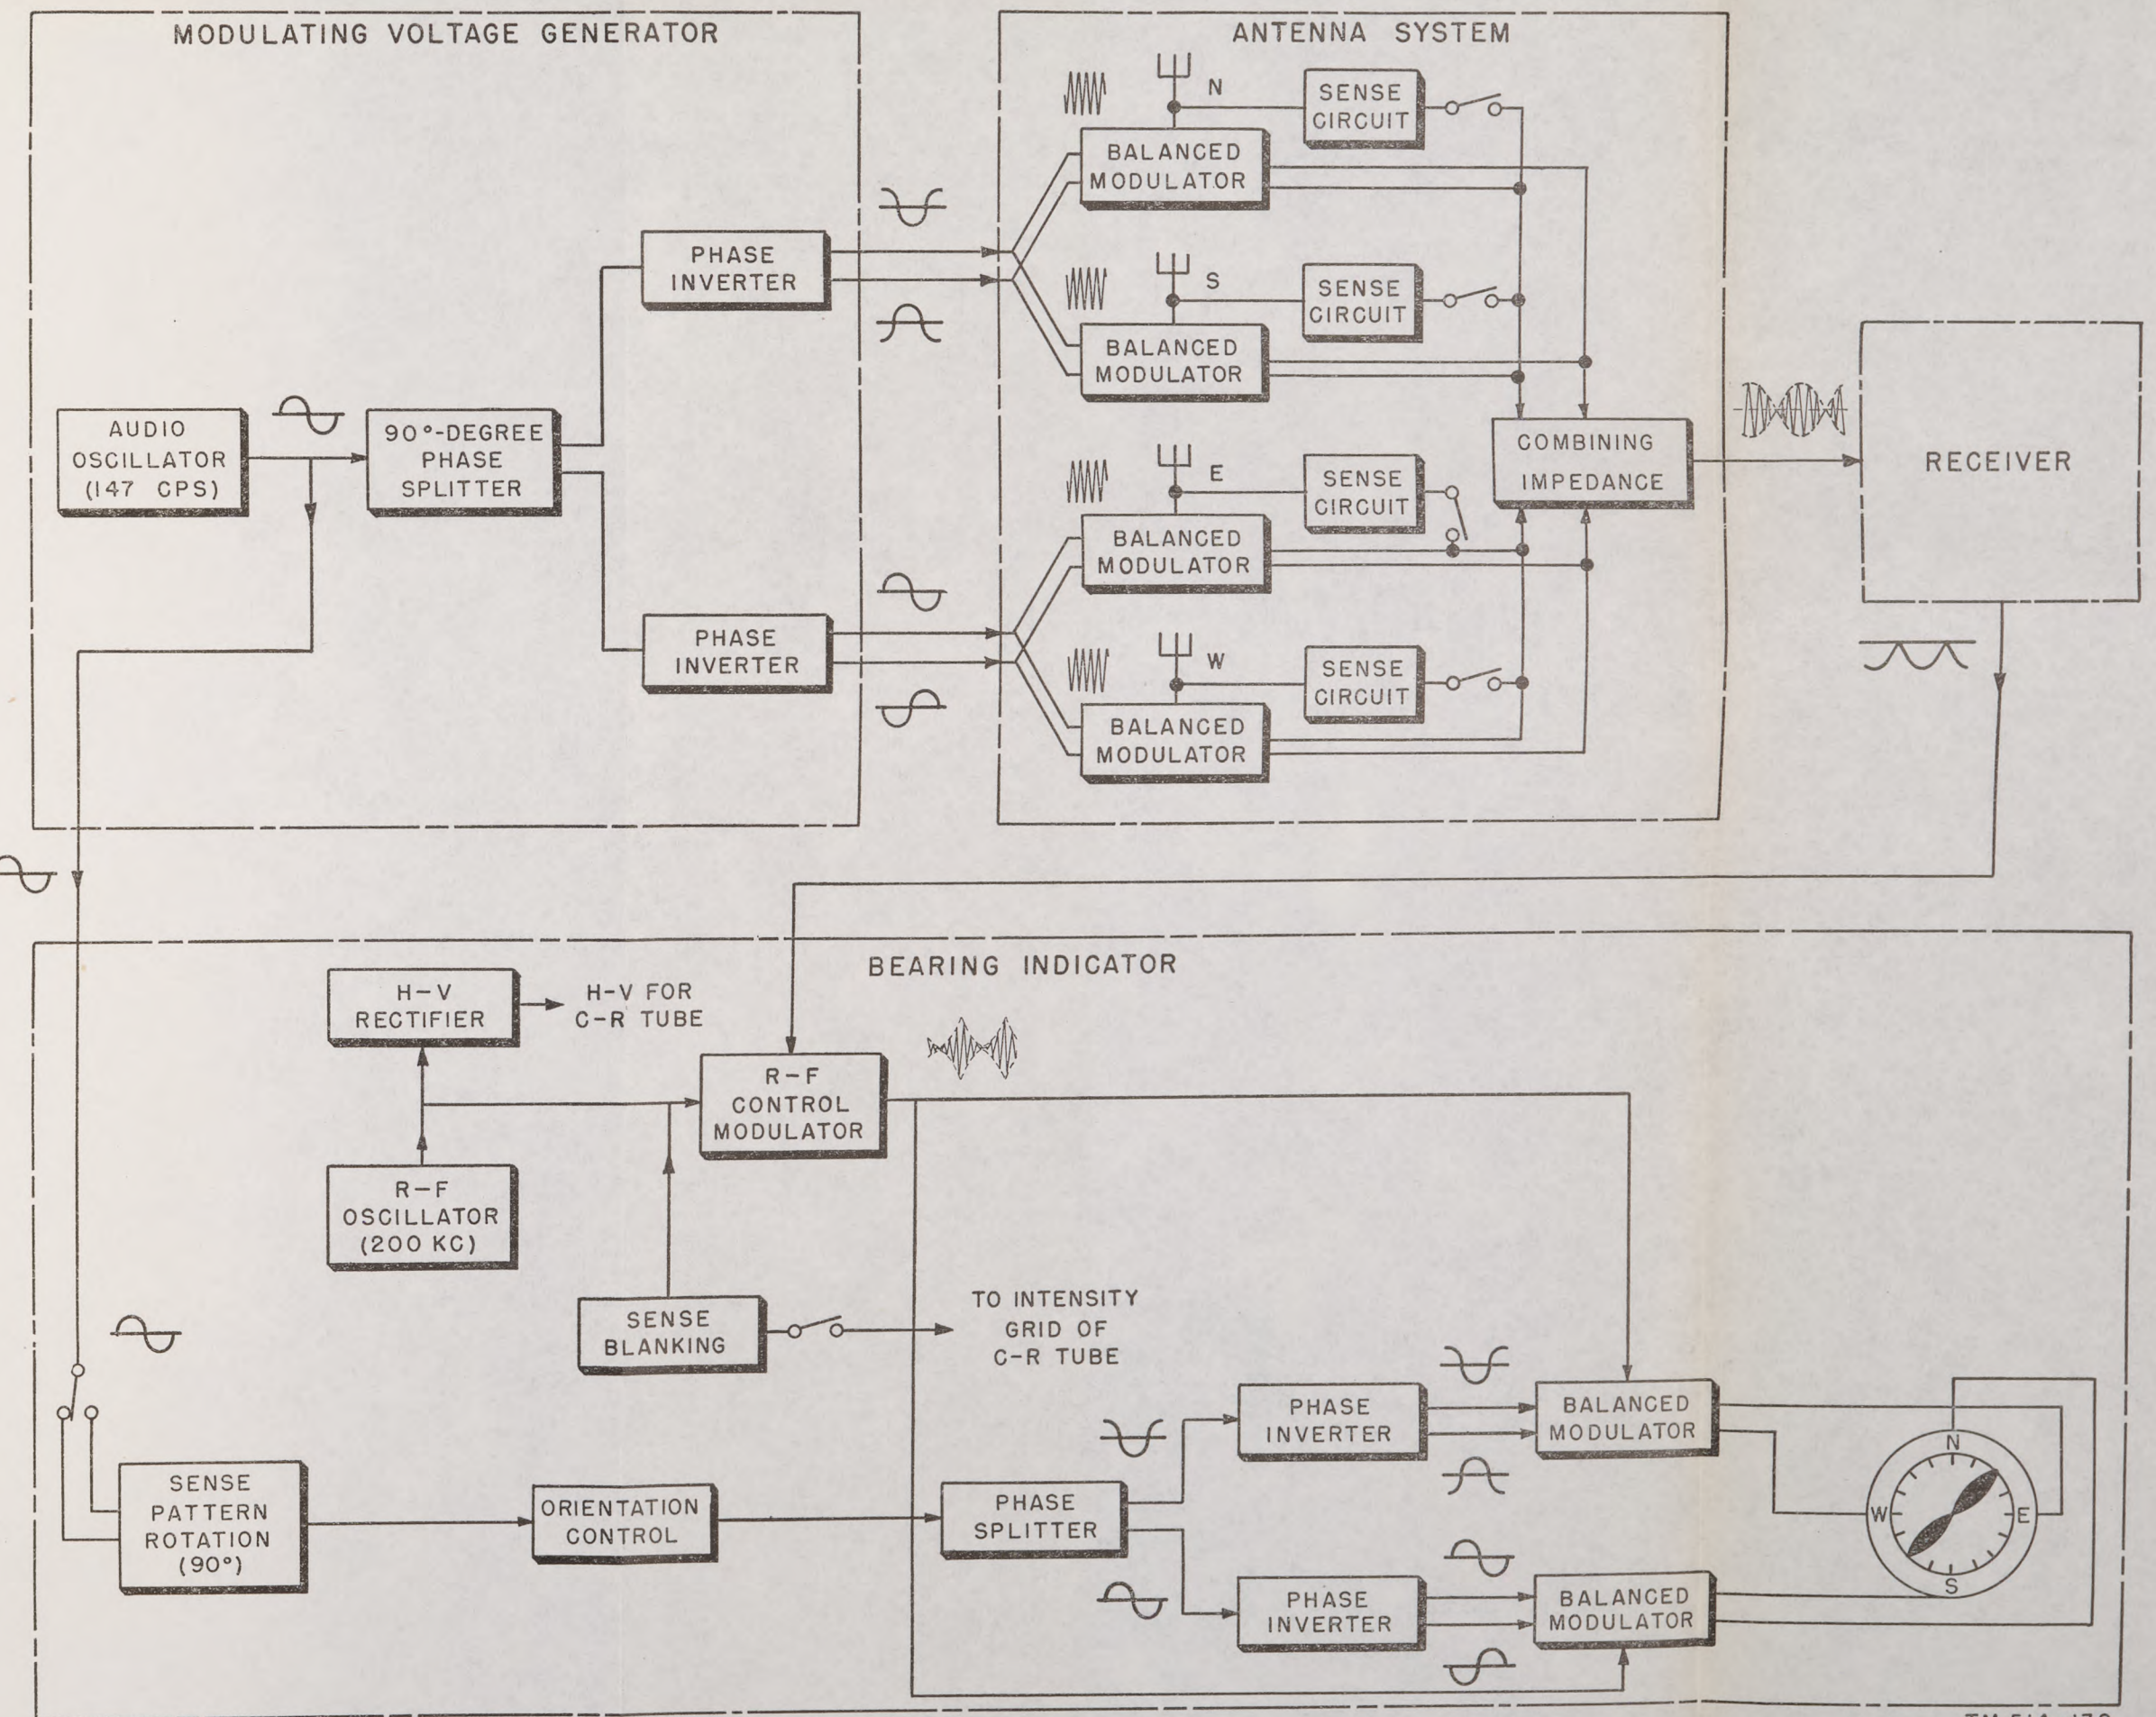

Figure 57. Radio Set AN/CRD-2, functional block diagram.
block diagram of figure 57, and paragraphs 72 through 118 present the theory in detail.
b. The outputs of all four balanced modulators (fig. 57) are connected to a common load, the combining impedance, across which is developed a single, modulated, r-f wave. The envelope phase of this wave, explained in section IV, this chapter, is dependent upon the direction of arrival of the radio wave at the antenna system.